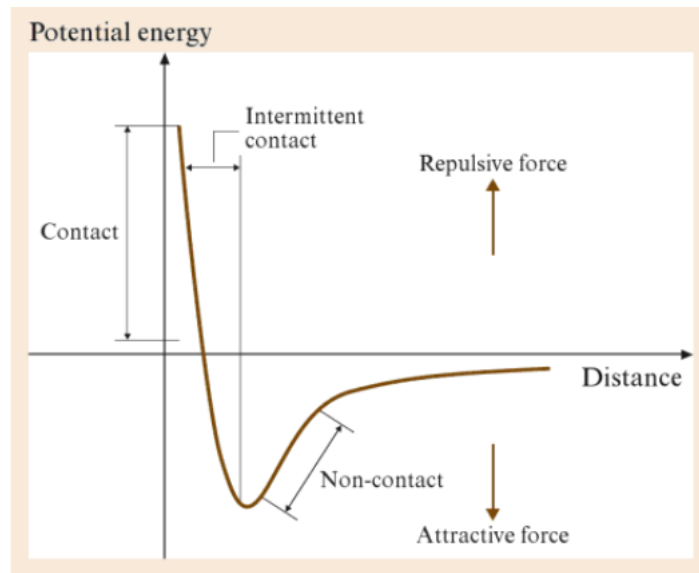

Figure 2 – Potential Energy vs Distance curve for an AFM tip and surface.
When the tip is closer to the surface than an equilibrium distance it experiences a repulsive force. When the tip is further from the surface than an equilibrium distance it experiences an attractive force. Figure 2 shows these forces.
- (a) Label figure 2 to show the location of the equilibrium position (EP). (1 mark)